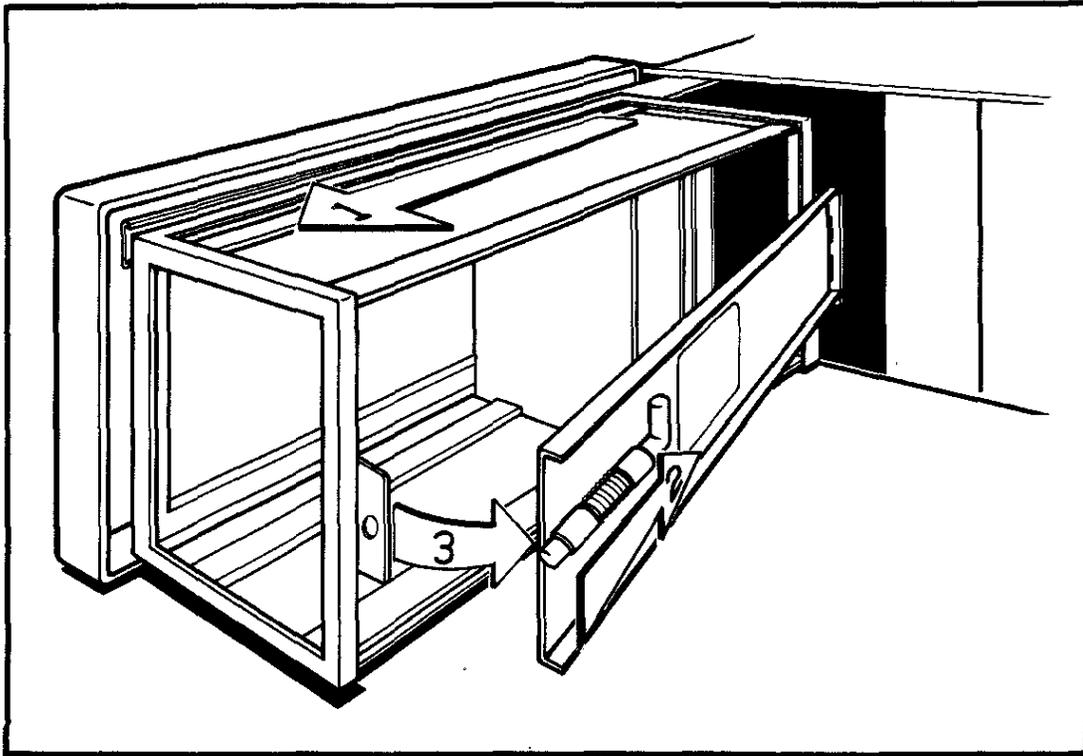

Figure B-1: ACCESSING THE CARD CAGE
3. Pull the card cage out toward you until it stops. Then remove the retaining bar securing the circuit boards. To do this, pull back on the spring-loaded bolt holding the bar while pulling out on the bar (see Figure B-1).
6. Replace the retaining bar by pulling back on the bolt, fitting the bar onto its mounts, and then letting the bolt slip back into its hole (see Figure B-1). Then slide the card cage completely back into the system.